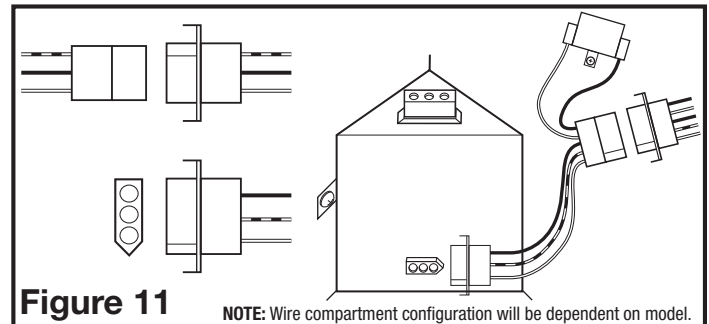

Figure 11
3. Connect the fan wire harness by plugging the 3 pin quick connect end into the receptacle located on the side of the wire compartment cover. Confirm that the 5 pin quick connect end is plugged into the receptacle from the blower assembly. Connect the light wire harness by plugging the 3 pin rectangular quick connect end into the receptacle located at the top of the wire compartment. These cords will only fit one way into the receptacles (**Figure 11**).